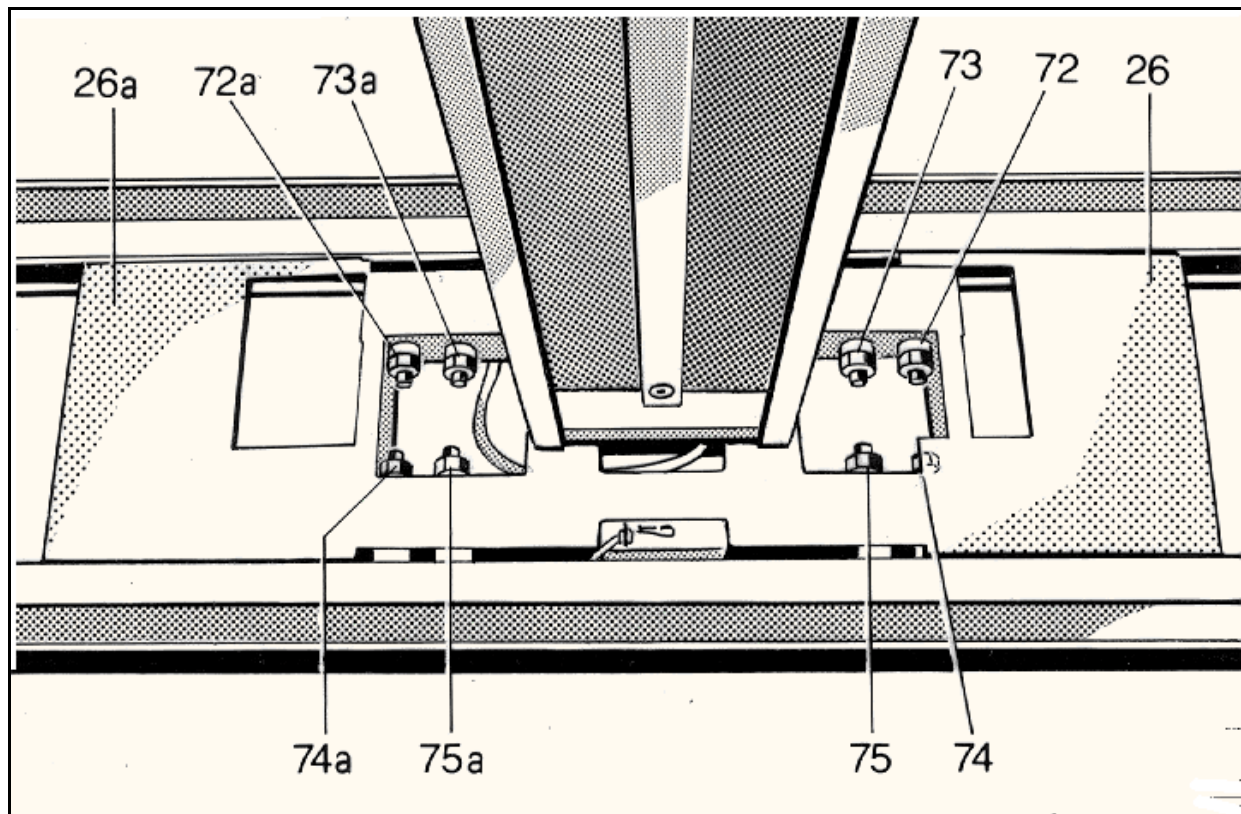
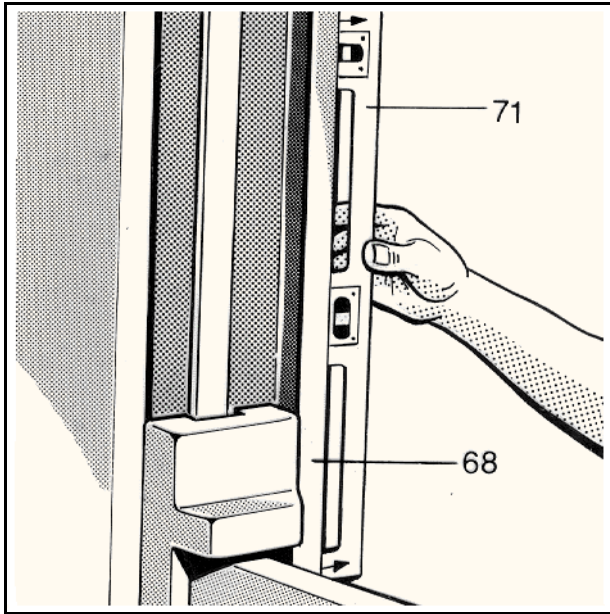
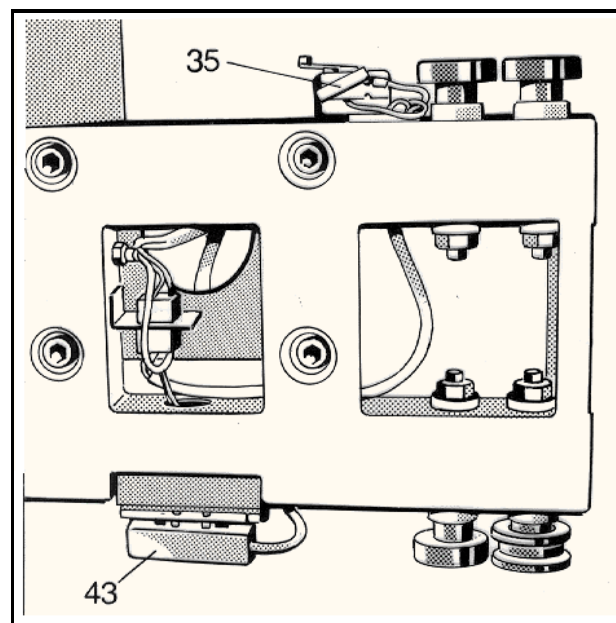

Fig. 18
Fig. 19
Fig. 25
Check the upright position of the column (Fig. 19/item 68) with water level (item 71). If it is necessary to adjust the column position, remove cover plate (Fig. 18/items 26 and 26a), turn outer pulleys (items 72, 72a and 74, 74a) by adjusting eccentric axis so that they don't touch the running surface. The column can now be adjusted in its upright position by turning the inner eccentrics (items 73, 73a and 75, 75a). When the column is in the proper position, turn back the outer pulleys so that they touch the running surface. Move the column over entire travel range and check for smooth and easy running.
Switches: Remove cover cap (Fig. 18/item 26a) and adjust switches -S8, -S9 (Fig. 25/item 35) within range of slotted holes.
- * Remove cap (Fig. 18/items 26 and 26a).